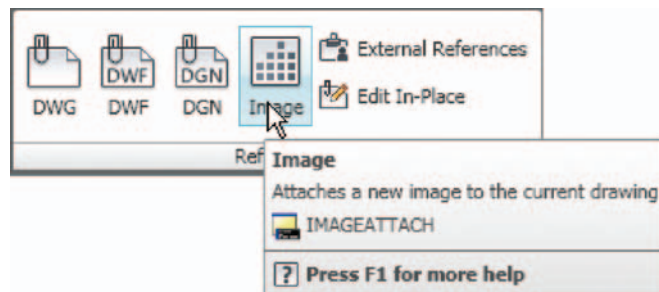
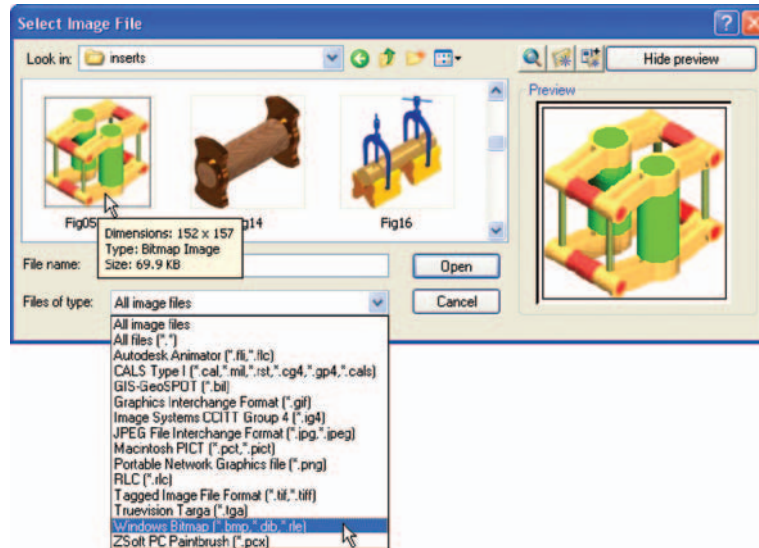
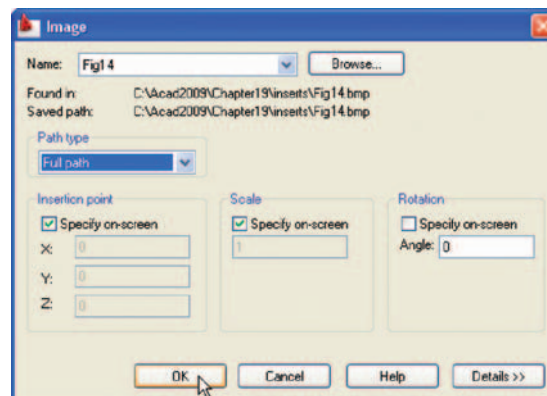

Fig. 19.2 Selecting **Image** from the **Blocks & References/References** panel
Fig. 19.3 The Select Image File dialog
Fig. 19.4 Example – Raster image in a drawing – the Image dialog
Raster images are graphics images in files with file names ending with the extensions ***.bmp**; ***.pcx**; ***.tif**; and the like. The types of graphics files which can be inserted into AutoCAD drawings can be seen by first *clicking* on the **Image** icon in the **Blocks & References/Reference** panel (Fig. 19.2), which brings the **Select Image File** dialog (Fig. 19.3) on screen. In the dialog *click* the arrow to the right of the **Files of type** field and the pop-up list which appears lists the types of graphics files which can be inserted into AutoCAD drawings. Such graphics files can be used to describe in 3D the details shown in a 2D technical drawing.
10. Open the **Select Image File** dialog and from the **Look in** field select the raster file **Fig14.bmp** from the file list (Fig. 19.3). Another dialog (**Image**) opens (Fig. 19.4) showing the name of the raster image file.